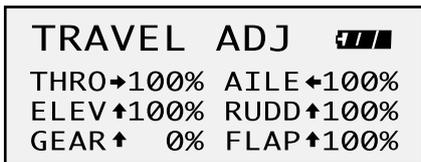

Fig. 13
2. Enter "Adjust list menu" » "Travel adjust" » scroll to "Gear". With gear switch in position "0", highlight and adjust the travel to "0%". Refer to [Fig. 13]: